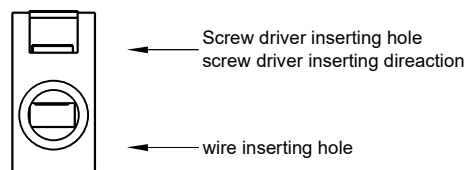

Figure 2
- The insertion position of the wire and the screwdriver and the insertion direction of the screwdriver are as shown in Figure 2.